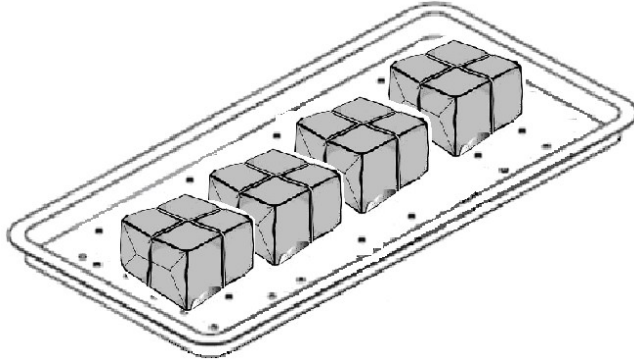

Figure 173
**WARNING:** To sterilize absorbent cotton or woolen, please wrap it with a thin towel, covering cloth, linen, or sterilizing pouch to avoid piping clog according to Figure 173.